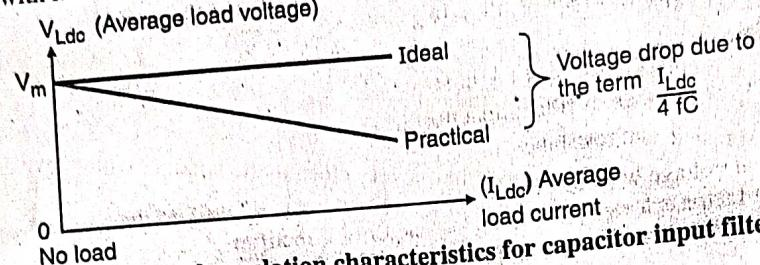

Fig. 11.8.5 : Load regulation characteristics for capacitor input filter
2. If C is constant then $V_{L\text{dc}}$ decreases with increase in load current. The second term in Equation (11.8.3 (a)) represents drop in voltage. The variation in $V_{L\text{dc}}$ with change in load current is as shown in Fig. 11.8.5.
3. The load regulation can be calculated from the characteristics of Fig. 11.8.5. The regulation will be better with increase in the value of "C" or with reduction in the value of full load current.